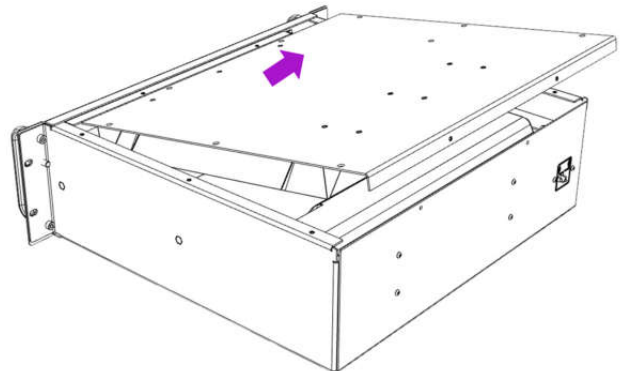

Fig. 13
6. Slide upper housing lid in the direction of arrow (Fig. 13)